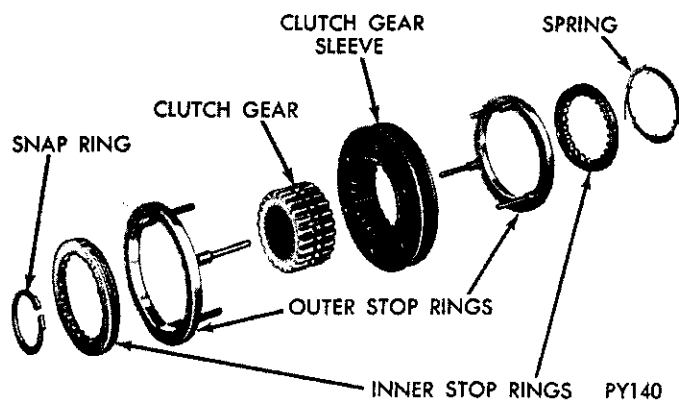
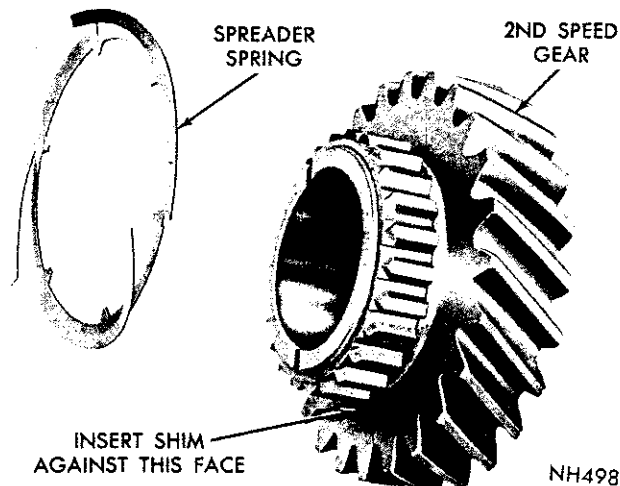

Fig. 24—A-903 Synchronizer—Disassembled
Fig. 28—Synchronizer Shim Location
- (5) Now remove the synchronizer parts (Fig. 24)
(3) Arrange all the synchronizer parts (Fig. 24) with second gear (Fig. 28) and shift fork, so they may be held in one hand as a package.
(4) Position this gearset in case and enter shift fork
(8) In cases where synchronizer "float" measurement is above .117 inch, synchronizer shims should be installed to reduce "float" to .117 inch or less. Install shim on shoulder of second speed gear, before spreader spring is installed (Fig. 28).